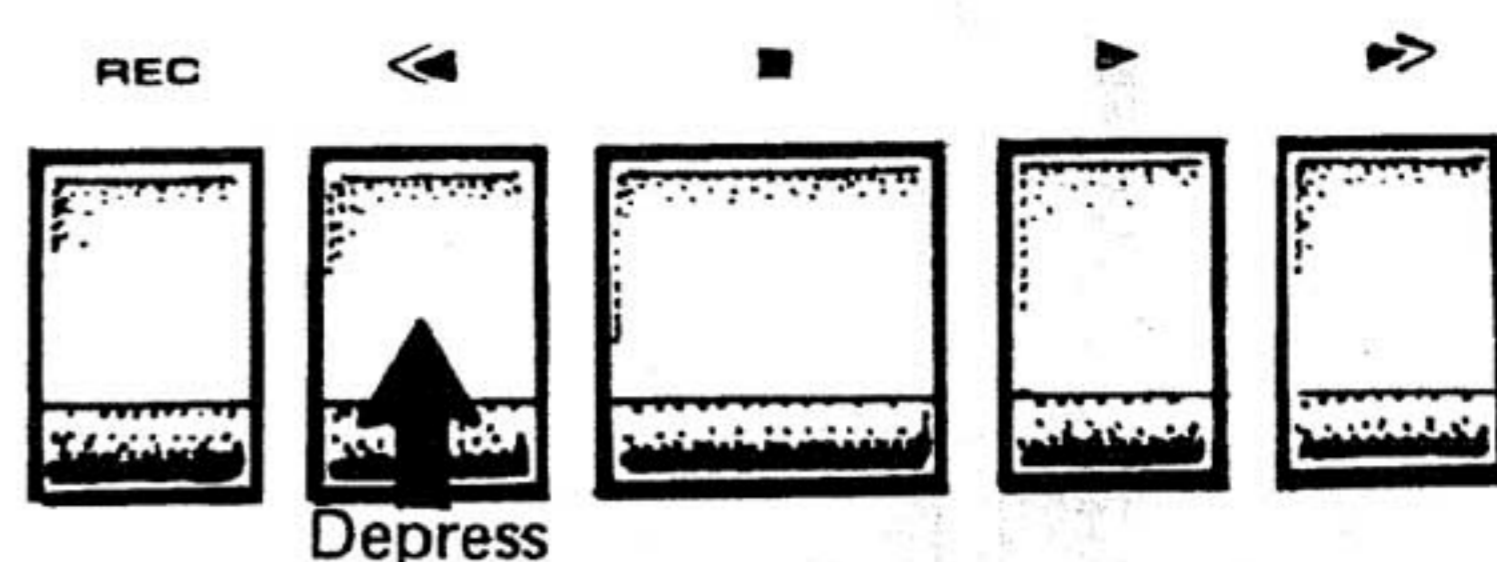

Fig. 22
1. Set the REEL switch by your reel size. Then, depress the ◀ rewind button (Fig. 22).